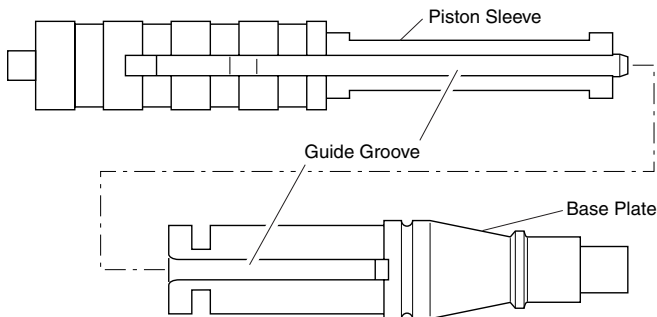

Figure 13 - Sliding Base Plate Onto Piston Sleeve
3. Slide base plate onto piston sleeve. **Note:** Make sure guide groove on base plate and piston sleeve are in line (see Figure 13).